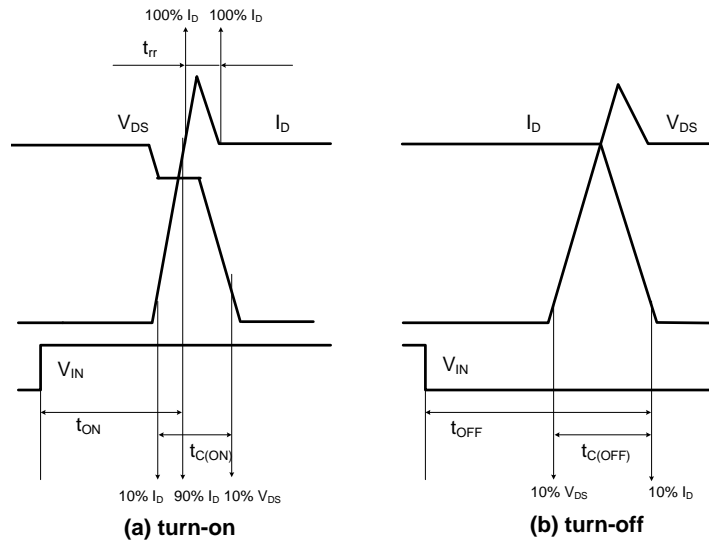

Figure 4. Switching Time Definition
- t_{ON} and t_{OFF} include the propagation delay time of the internal drive IC. t_{C(ON)} and t_{C(OFF)} are the switching time of MOSFET itself under the given gate driving condition internally. For the detailed information, please see Figure 4.